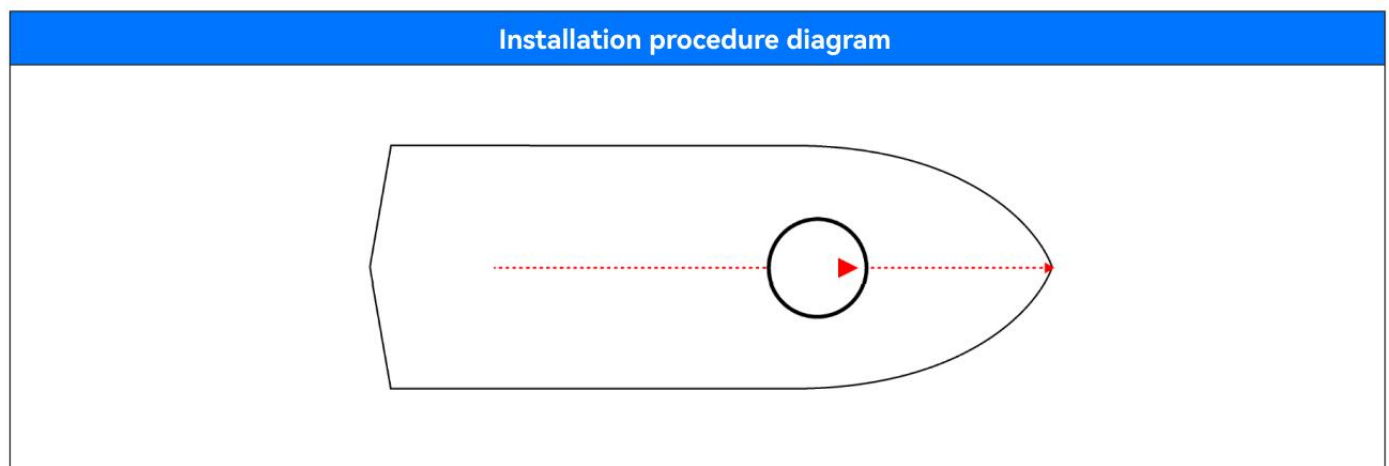

Figure 3.2
2. Point the sensor arrow toward the bow, as shown in Figure 3.2.